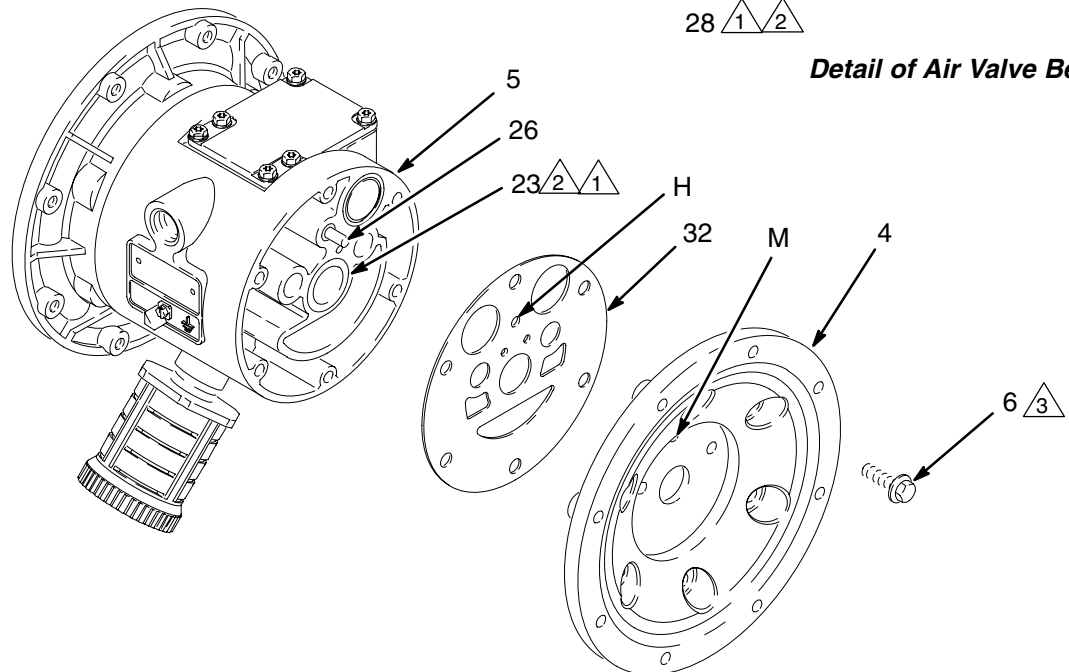

Fig. 15
- NOTE:** If you are removing only the diaphragm shaft bearing (23), skip step 4.
5. Using a 10 mm socket wrench, remove the screws (6) holding the air covers (4) to the center housing (5). See Fig. 15.
6. Remove the air cover gaskets (32). Always replace the gaskets with new ones.
7. Use a bearing puller to remove the diaphragm shaft bearings (23), air valve bearings (31) or pilot pin bearings (28). Do not remove undamaged bearings.
1. If removed, install the shaft u-cup packings (22*) so the lips face **out** of the housing (5).
2. The bearings (23, 28, and 31) are tapered and can only be installed one way. Insert the bearings into the center housing (5), **tapered end first**. Using a press or a block and rubber mallet, press-fit the bearing so it is flush with the surface of the center housing.
4. Align the new air cover gasket (32) so the pilot pin (26) protruding from the center housing (5) fits through the proper hole (H) in the gasket.
5. Align the air cover (4) so the pilot pin (26) fits in the middle hole (M) of the three small holes near the center of the cover. Apply medium-strength (blue) Loctite or equivalent to the threads of the screws, and install the screws (6), hand tight. See Fig. 15. Using a 10 mm socket wrench, torque the screws oppositely and evenly to 120 to 150 in-lb (14 to 17 N•m).